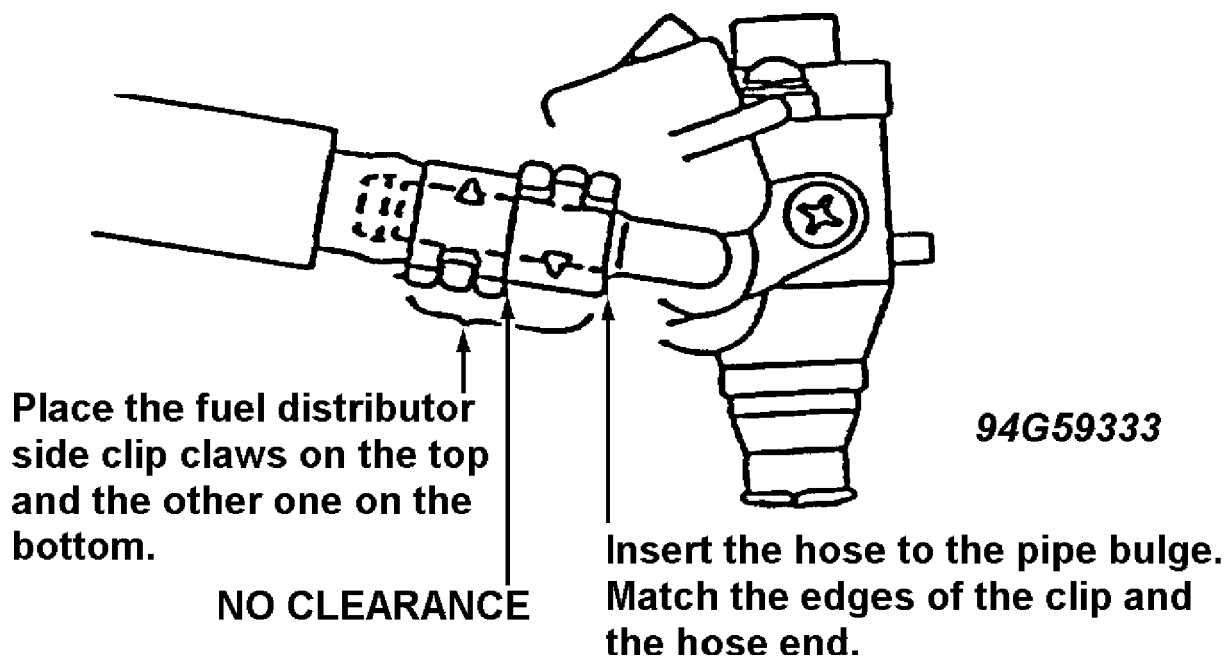

Fig. 54: Installation of Clips on Hose
- \* Place the fuel distributor side clip claws on the top and the other one on the bottom. For the directions of the clip claws, see Figs. 54 and 55. Insert the hose to the pipe bulge. Match the edges of the clip and the hose end.